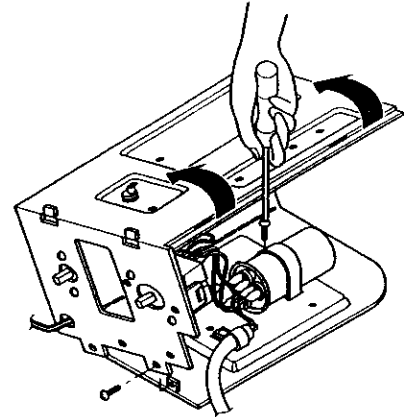

Figure 67
4. Remove a screw and unfold the control box. (See Figure 67)